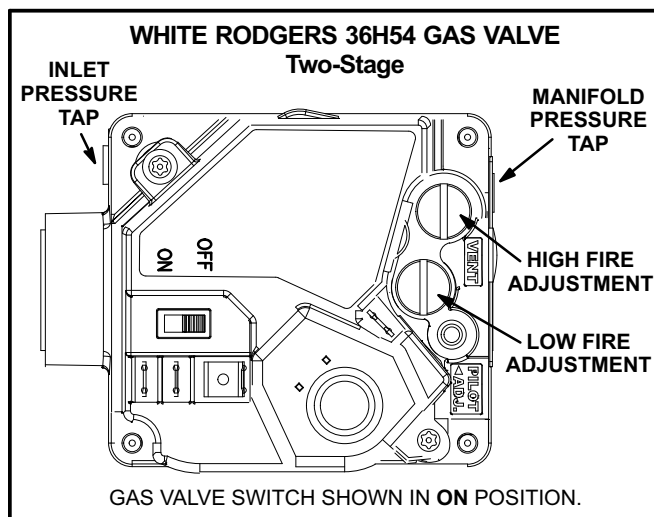
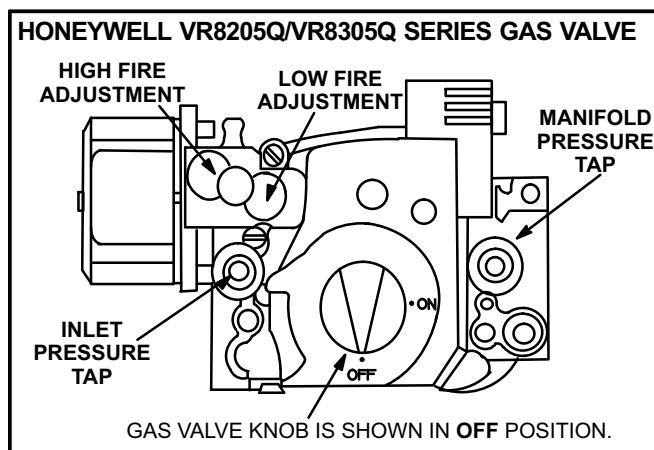

FIGURE 26
FIGURE 27
Gas Valve Operation for Honeywell VR8205Q/VR8305Q and White Rodgers 36H54 (figure 26 and 27)
- 6- Turn gas valve switch to **OFF**. See figure 26. On Honeywell VR8305Q gas valves, turn the knob on the gas valve clockwise ➡ to “**OFF**”. Do not force. See figure 27.
- 7- Wait five (5) minutes to clear out any gas. If you then smell gas, **STOP!** Immediately call your gas supplier from a neighbor's phone. Follow the gas supplier's instructions. If you do not smell gas, go to the next step.
- 8- Turn gas valve switch to **ON**. See figure 26. On Honeywell VR8305Q gas valves, turn the knob on the gas valve counterclockwise ⬅ to “**ON**”. Do not force. See figure 27.